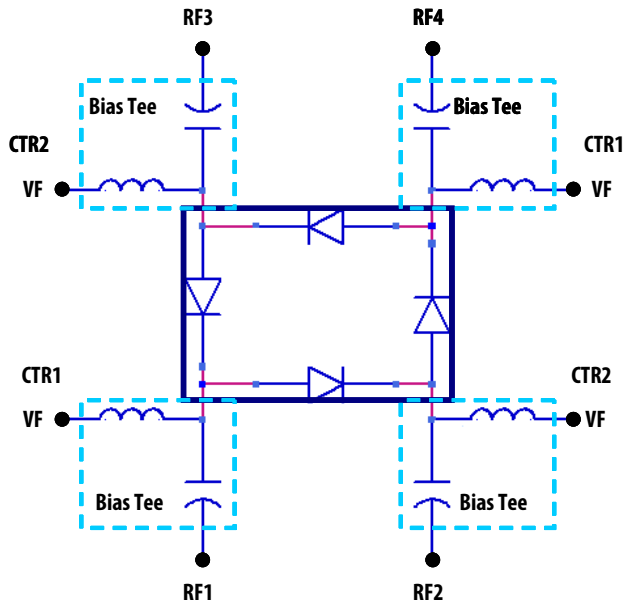

Figure 7. A diagram showing the application circuit for Diversity Switch using HSMF-389D.
4. Measurement obtained using the demoboard described in Figure 7 & 8.